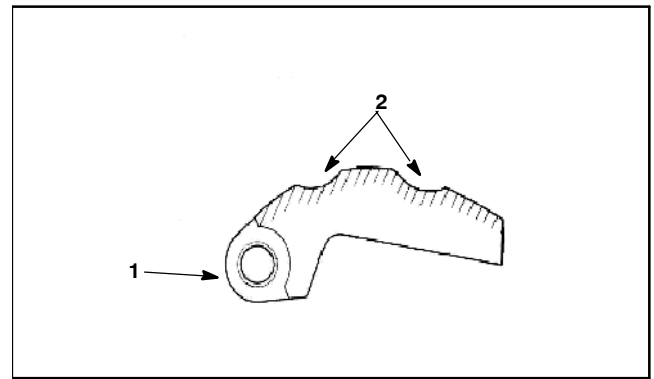

Figure 14
2. Check the surface of the cam weights. If worn, replace all cam weights as a set (Fig. 14).